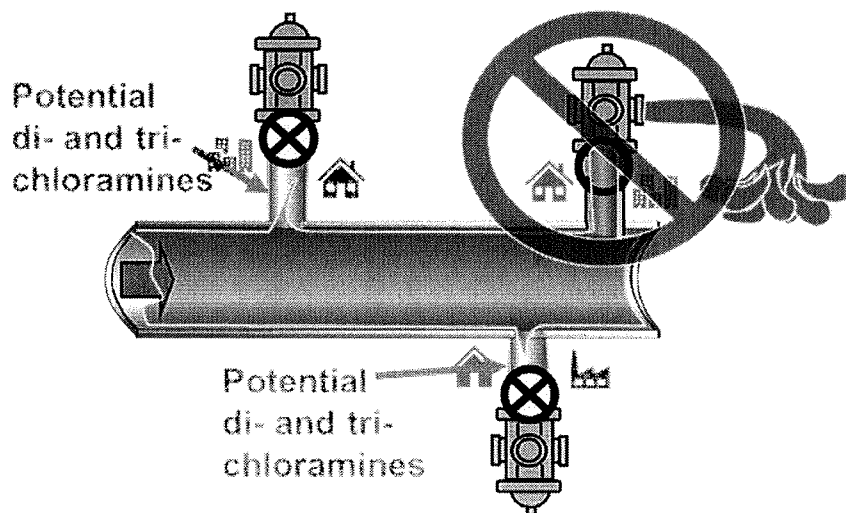

Figure 4. A distribution system with three branches and flush points at the end of each branch.
**Do not open the farthest valves first.** Figure 4 illustrates a distribution system. Each branch represents a different part of your system with a flush location at the end of each branch. Starting the flush at the farthest point in the distribution system may promote the formation of stinky di- and tri-chloramines at points closer to the source.